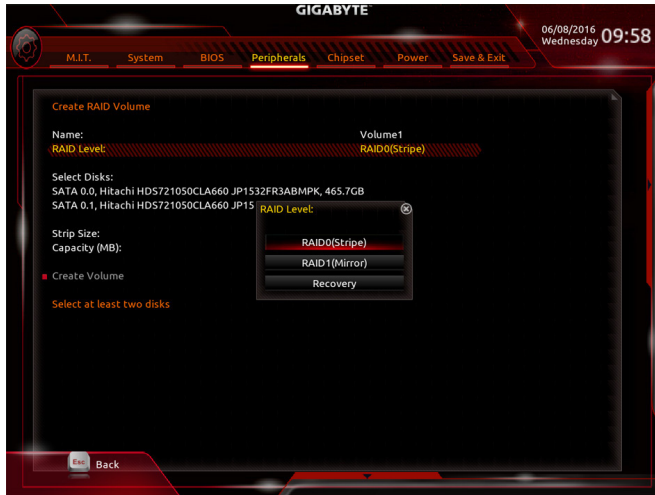

Figure 8
On the **Intel(R) Rapid Storage Technology** menu, press <Enter> on **Create RAID Volume** to enter the **Create RAID Volume** screen. Enter a volume name with 1~16 letters (letters cannot be special characters) under the **Name** item and press <Enter>. Then, select a **RAID level** (Figure 8). RAID levels supported include RAID 0, RAID 1, Recovery, RAID 10, and RAID 5 (the selections available depend on the number of the hard drives being installed). Next, use the down arrow key to move to **Select Disks**.